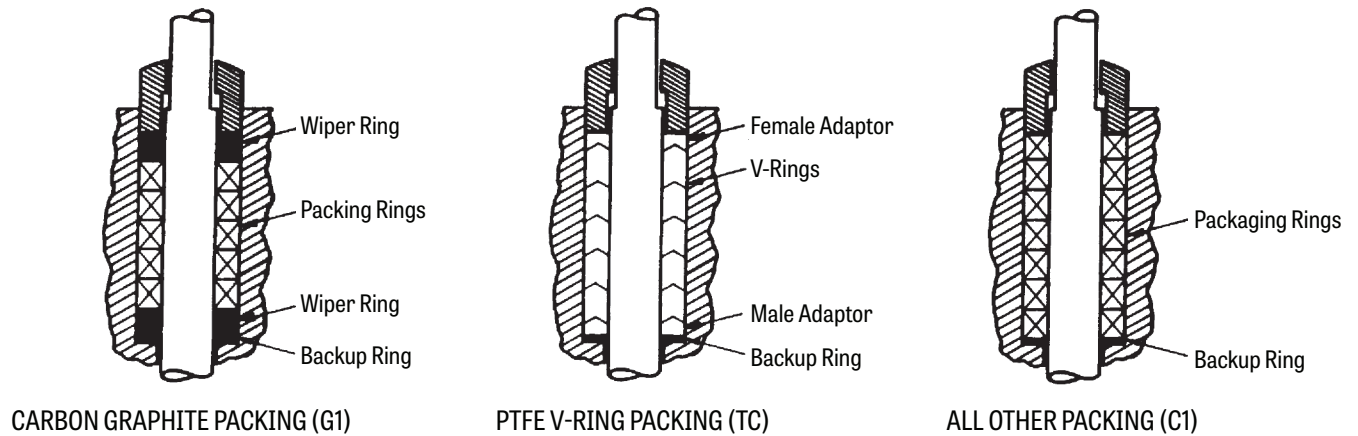

Figure 3: Packing Component Stackup
7. Slide the new packing, one piece at a time, down the valve shaft and into the packing chamber. Use the sequence shown in Figure 3, page 8. Use the packing gland to seat each packing ring one at a time. Be sure to use a compatible lubricant with each piece of packing as required.
5. Slide the backup ring and the new packing down the valve shaft and into the packing chamber in the sequence shown in Figure 3, page 7, being sure to use the proper lubricant if required. Then slide the packing gland into place.